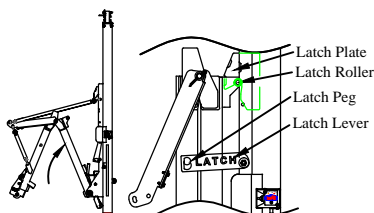

Figure 11: Step 12 & 13.
- Step 12. Continue holding the self-close arm in the engaged position while raising the platform. After the platform begins to fold, release the handle of the self-close arm and step away from the lift. Continue raising the platform until the platform latch rollers drive up into the latch plates (Figure 11).
- Step 13. Hook the Latch Lever securely back onto the Latch Peg on the platform (Figure 11).